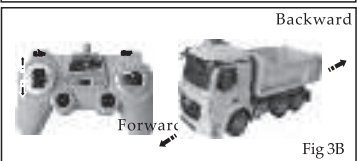

Fig 3B
- To push the Left Handle forward/backward, the car would go forward/backward.(Fig 3B)